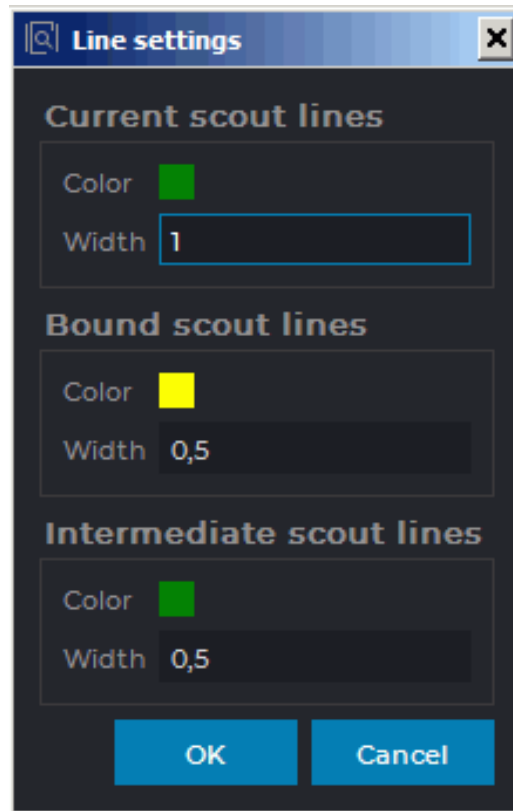

Figure 2.78: Line settings dialog box
5. **Line settings** opens the dialog to configure the scout lines settings (Fig. 2.78).
1. Click on the arrow on the right side of the  button and select the **Line settings...** item. A dialog box shown in Fig. 2.78 will be displayed.
2. Set the line color. To do this, click the color change button (highlighted by the red arrow in Fig. 2.78), select a color in the dialog box and click **OK**.